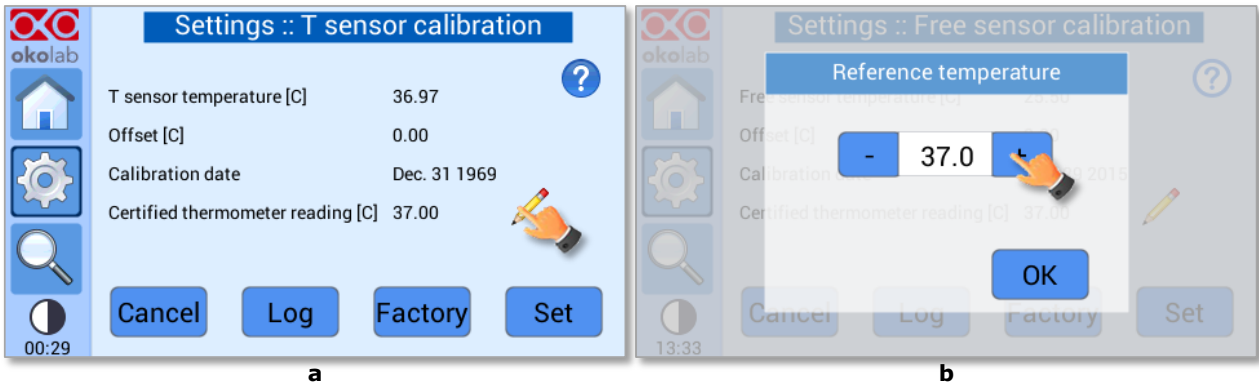

Figure 49. How to re-calibrate the T sensor
- 3 Type in the reading of the certified thermometer by pressing on the pencil , as shown in Figure 49(a)
- 4 Press on *Set* to adjust to reading of the T-Sensor against the reading of the certified thermometer, as shown in Figure 49(b).